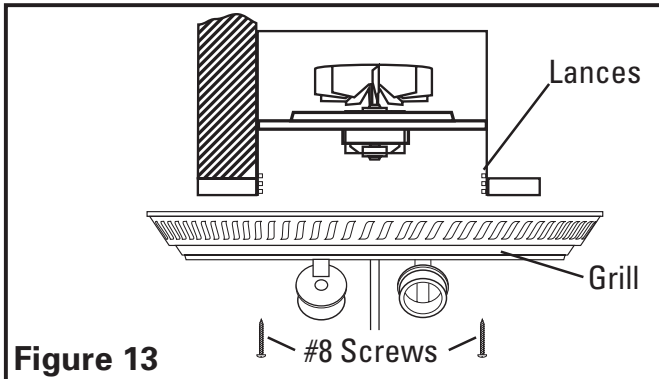

Figure 13
4. Line up slots in the grill with lances on inside of housing. Insert included #8 screws through grill slots and into housing lances. Tighten both screws until the grill fits snugly to the ceiling. DO NOT OVER TIGHTEN (**Figure 13**).